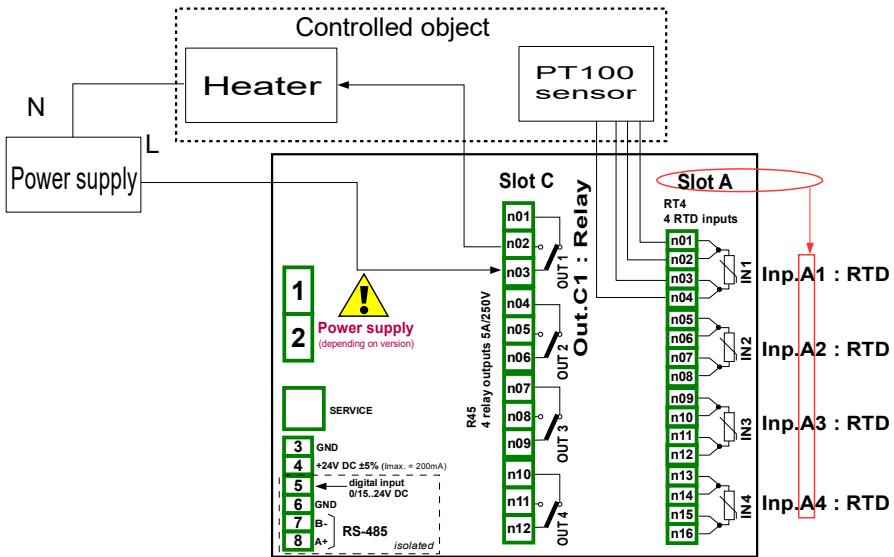

Fig. 7.98. Schematic diagram for the RTD input and Relay output modules
First configure the device as described below, then connect the object and power supply as shown in **Fig. 7.98.**
To control temperature in the object shown in **Fig. 7.98**, it is necessary to configure one **Logical channel** and **Relay output**.
- **Source** parameter set as **Inp.A1 : RTD** (see **Fig. 7.98**),
- to the heater. For this example it is the output named **Out.C1 : Relay** (see **Fig. 7.98**),